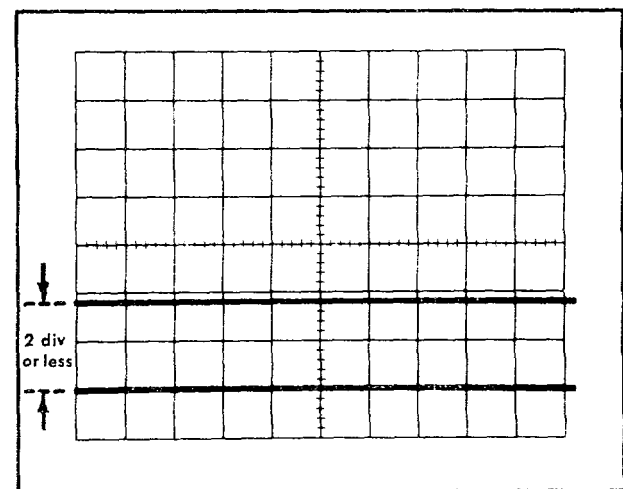

Fig. 5-17. Checking the VARIABLE control 2.5-to-1 uncalibrated range.
b. When the VARIABLE control is set fully counterclockwise, check the amplitude of the display. It should be 1.6 div or less (see Fig. 5-17). This indicates a ratio of 2.5 to 1 or higher. For example, the amplitude of the display shown in Fig. 5-17 is 1.8 div which indicates a ratio of 2.78 to 1 ($5 + 1.8 = 2.78$) which is higher than 2.5 to 1.